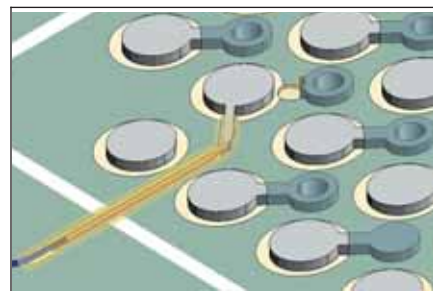

Figure 4 Solder a foil jumper to the tail extending from the new BGA pad.
6. Bond a replacement BGA pad in place using a bonding system. (See Procedure 4.7.3.) The new BGA pad must have a tail that will align with the foil jumper to be added next. (See Figure 4.)
9. Position this new foil jumper along the milled groove. The foil jumper should overlap the existing circuit a minimum of two times the circuit width. (See Figure 4.)